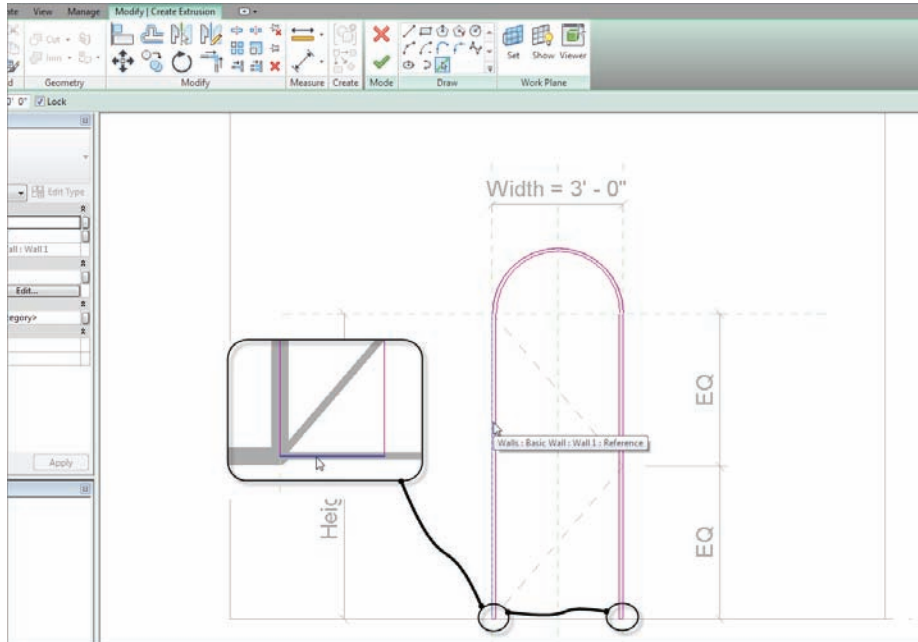

FIGURE 17.18 Picking the frame for the jamb
7. On the Options bar, select the Lock toggle, as shown in Figure 17.18.
8. Pick the inside face of the opening (see Figure 17.18).
13. Draw a line connecting the bottom of each jamb (see Figure 17.18).